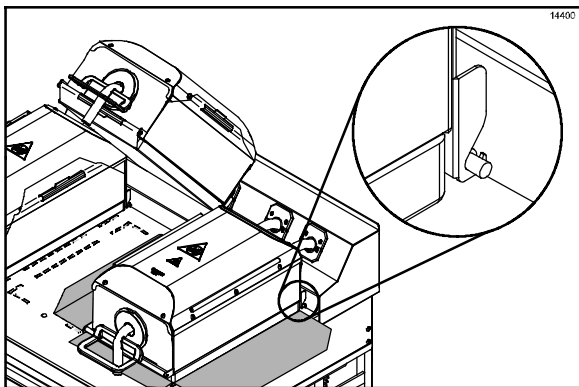

Figure 8
2. Engage the material retention bar into the hooks provided on the shroud. (See Figure 8.)